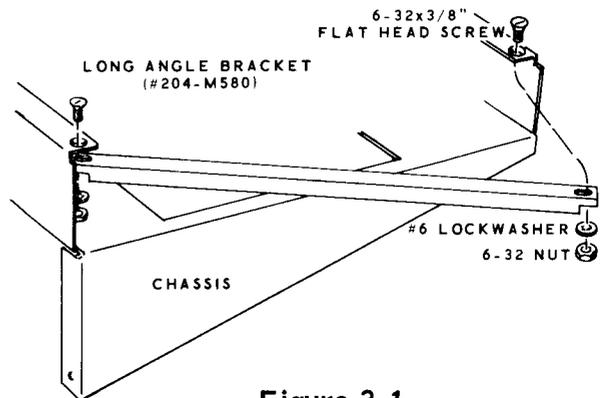

Figure 3-1
- () Refer to Figure 3-1, and install the long angle brackets, using 6-32 x 3/8" flat head hardware.